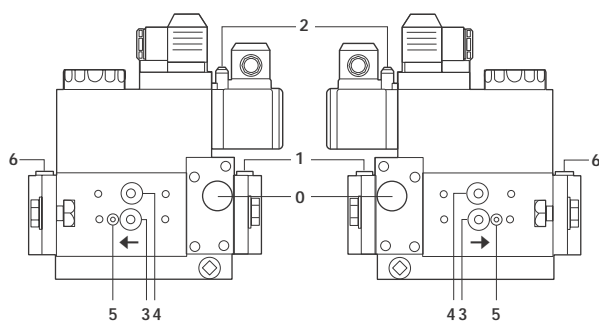
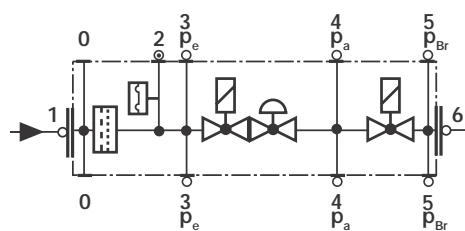

Fig. 31
Fig. 32
- Change the filter if the pressure difference between pressure connection 1 and 3 (Fig. 31-Fig. 32) is  $\Delta p > 10$  mbar.
- Change the filter if the pressure difference between pressure connection 1 and 3 (Fig. 31-Fig. 32) is twice as high compared to the last check.